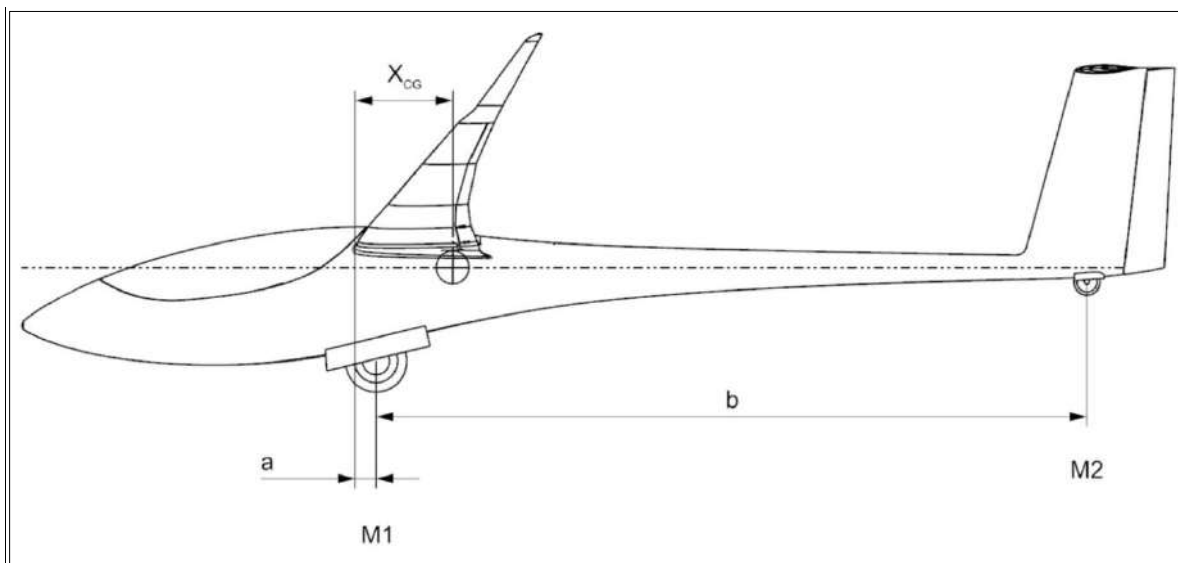

Figure 8-3: Reference distances
With the wings kept level, record the following values as given in Figure 8-3.
- a** The horizontal distance between the main wheel axle centre and a vertical line from the datum point, as indicated in Figure 8-3.
- b** The horizontal distance between the main wheel axle and the tail wheel axle centre, as indicated in Figure 8-3.